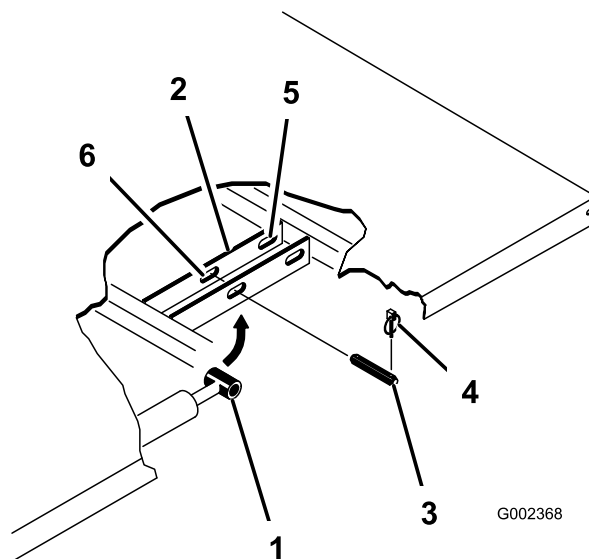

Figure 30
2. Remove the lynch pins from the outer ends of the cylinder rod clevis pins (Figure 30).
3. Remove the clevis pins securing the cylinder rod ends to the bed mounting plates by pushing the pins towards the inside (Figure 30).
4. Remove the lynch pins and clevis pins securing the pivot brackets to the frame channels (Figure 30).